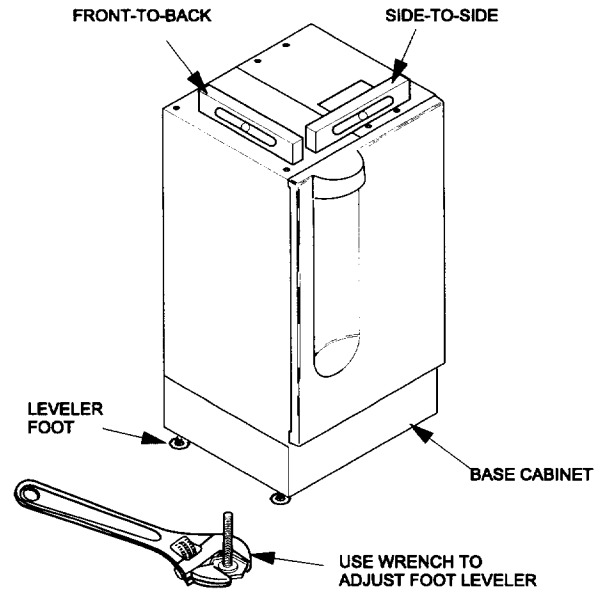

Figure 1
1. Place the base cabinet in its permanent location. Using a spirit level, level the cabinet side to side and front to back using the leveler feet as shown (figure 1).